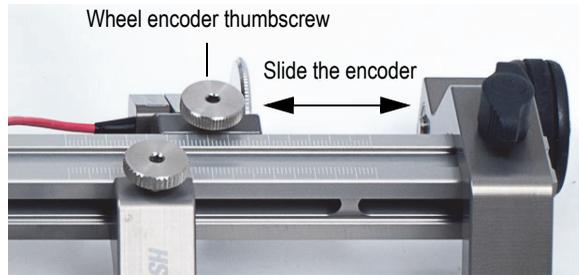

Figure 1-10 Positioning the wheel encoder
1. Loosen the wheel encoder thumbscrew (see Figure 1-10 on page 16).
2. Slide the wheel encoder to the desired position (see Figure 1-10 on page 16).